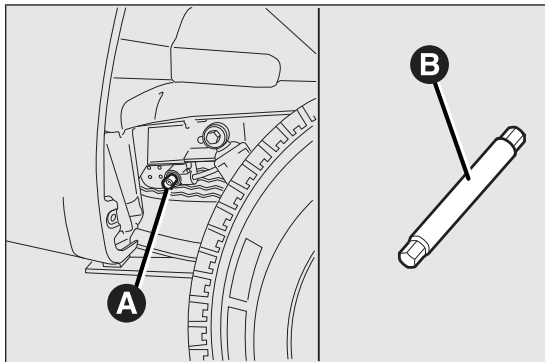
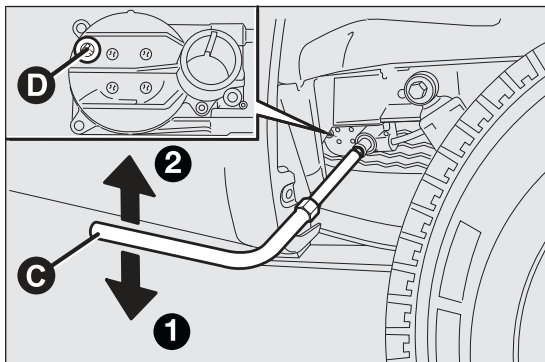

fig. 171
fig. 172
- ☐ for all versions, when gaining access through the vehicle's right rear wheel arch, adjust the screw A fig. 171 for the wheel retaining device, using the wrench provided with the extension/adaptor B;
- ☐ turn wrench C fig. 172 anticlockwise 1 to allow the lowering of the spare wheel;
- ☐ introduce the supplied wrench C fig. 172 with the suitable extension B fig. 171 on the screw A fig. 171 of the spare wheel housing manoeuvring device and turn clockwise 2 to lift the spare wheel back up until it is fully supported in its housing beneath the floor pan, checking that the attachment reference D fig. 172 appears in the window on the device.